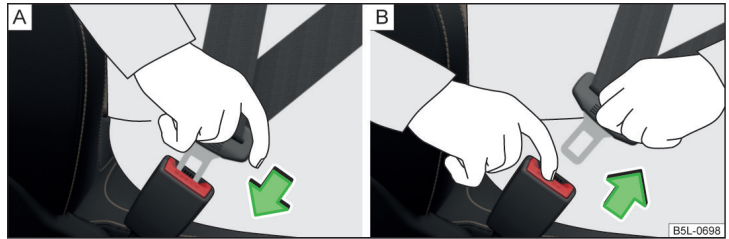

Fig. 18 Fastening/unfastening the seat belt
- › Insert the lock tongue into the belt buckle » Fig. 18 - [A] that is part of the seat until it clicks into place.
- › Grip the lock tongue and press the red button in the buckle » Fig. 18 - [B], the lock tongue pops out.